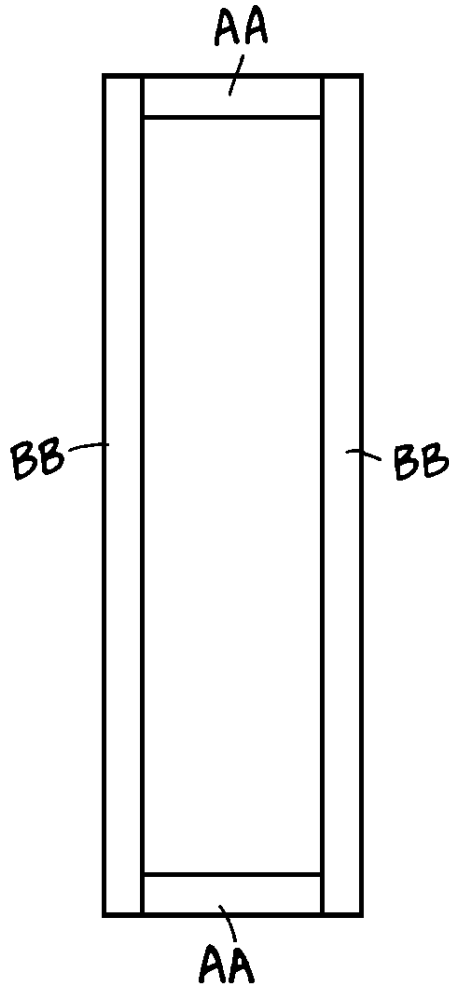

Figure 14
1. The wardrobe door is made in the same manner as the drawer fronts and the cabinet doors; only the measurements are different. Start by cutting one  $17\text{-}\frac{1}{2}$ " x 64" wardrobe door (Z) from laminated pine.
2. Cut two 15"-long top/bottom wardrobe door trim pieces (AA) from 1 x 3 pine
3. Cut two  $66\text{-}\frac{1}{4}$ "-long side wardrobe door trim pieces (BB) from 1 x 3 pine.
4. Using *Figure 14* as a guide, arrange the four trim pieces (AA and BB) on a level surface. Center the door front (Z) over the trim pieces, leaving a  $1\text{-}\frac{1}{4}$ " border of trim visible on each side of the wardrobe door front and a  $1\text{-}\frac{1}{8}$ " border of trim visible at the top and bottom of the door front. Glue the pieces together and secure with 3d finishing nails spaced 4" apart.